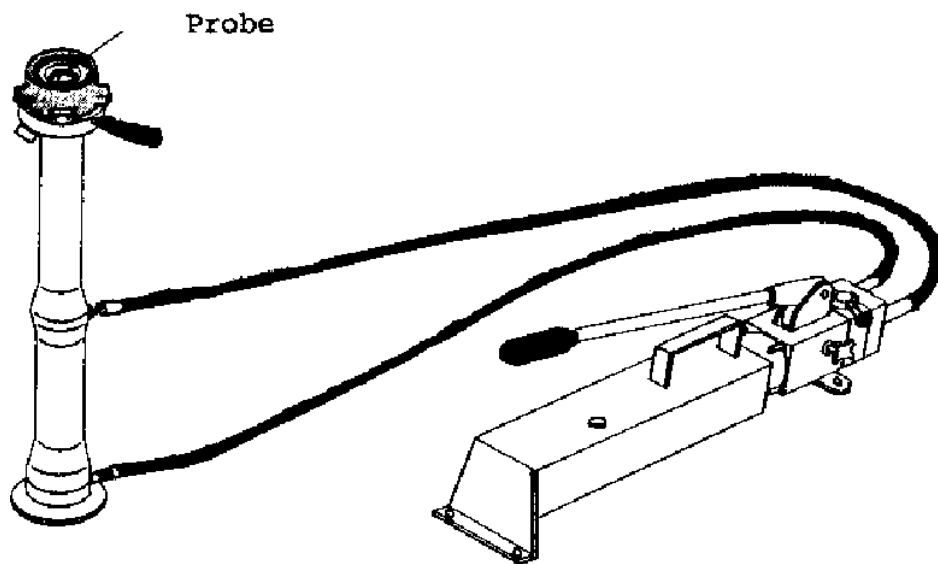

Fig. 11
2. Mount the plug / probe to the connecting rod. Set the pump to "RETRIEVE", and pump until the probe has been fully retracted into the retriever (fig. 11).